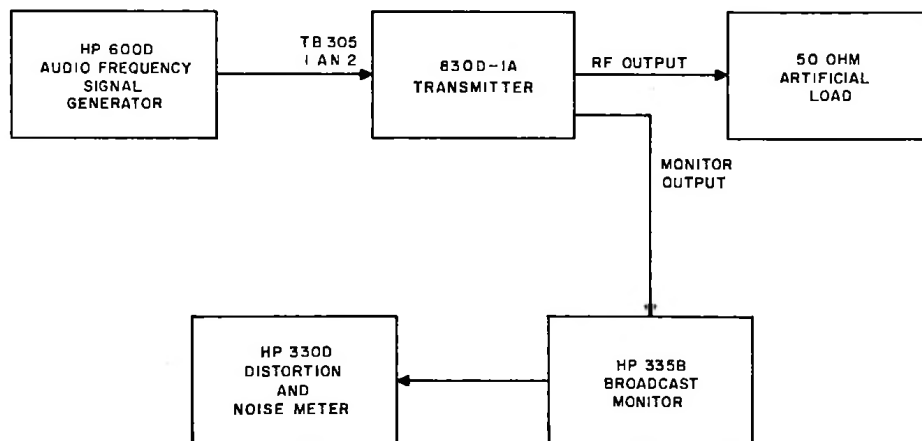

Figure 5-1. Distortion Test Setup
a. Refer to figure 5-1. Connect an audio frequency signal generator, such as a Hewlett-Packard Model 600D, to the exciter audio input, terminals 1 and 2 of TB305. (Disconnect the station console audio input leads when making this connection.) Connect a distortion and noise meter, such as a Hewlett-Packard